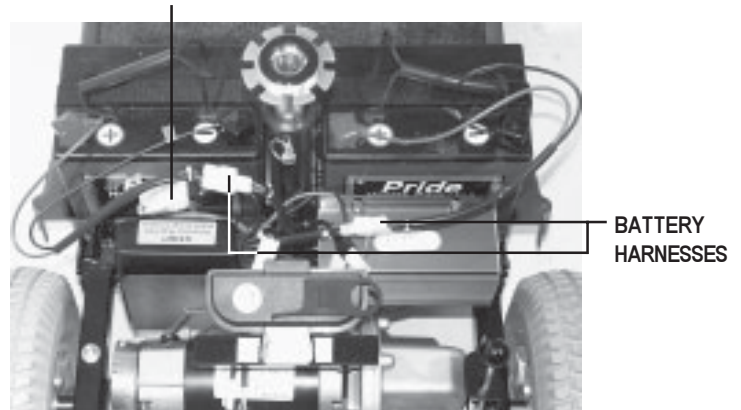

Figure 14. Disassemble Rear Connections
7. Unplug the large, white, 9-pin front-to-rear connector that attaches the front control console assembly harness to the electronic controller module harness. See figure 14.